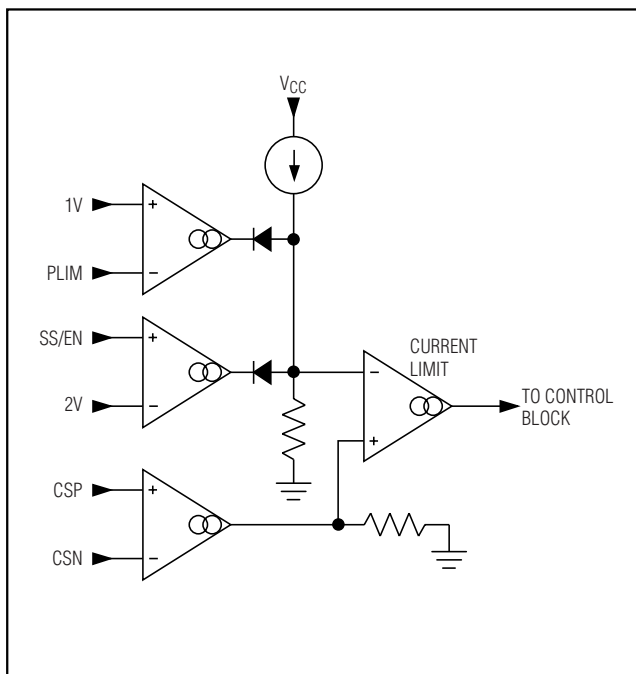

Figure 3. Current-Limit Functional Diagram
The MAX8704 features a current limit (Figure 3) that monitors the voltage across the current-sense resistor, typically limiting the CSP to CSN voltage to 50mV. When the CSP to CSN voltage reaches the current-limit threshold, the MAX8704 regulates the output current rather than the output voltage. During startup, the soft-start circuit ramps the current limit to reduce the input surge current (see the *Soft-Start Capacitor Selection* section).
1.0V, the MAX8704 folds back the current limit to reduce the power dissipation across the external components (Figure 3). The power limit allows an output short for an indefinite period of time without damaging the MAX8704 or its external components.